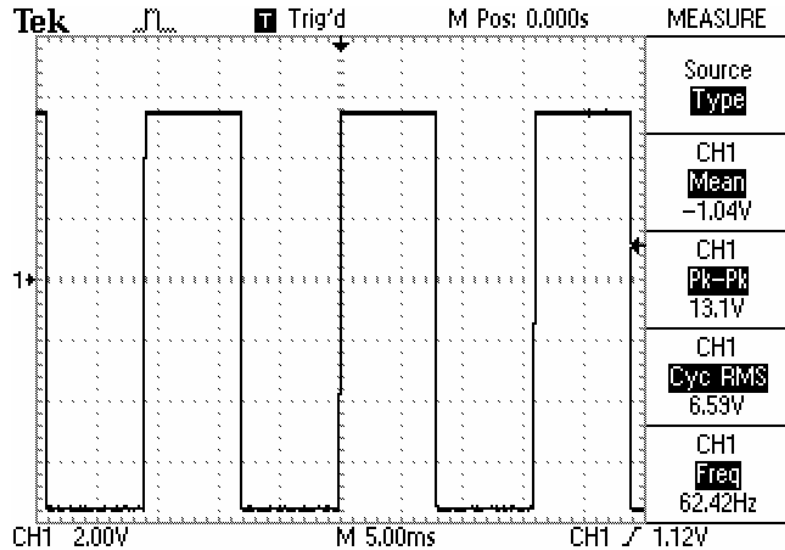

Figure 15: Oscilloscope Display of 60 Hz Square Wave
23. [] Minimize the A&D FREQ control. Verify an output of approximately 60 Hz at 13V Pk-Pk as shown in Figure 15.